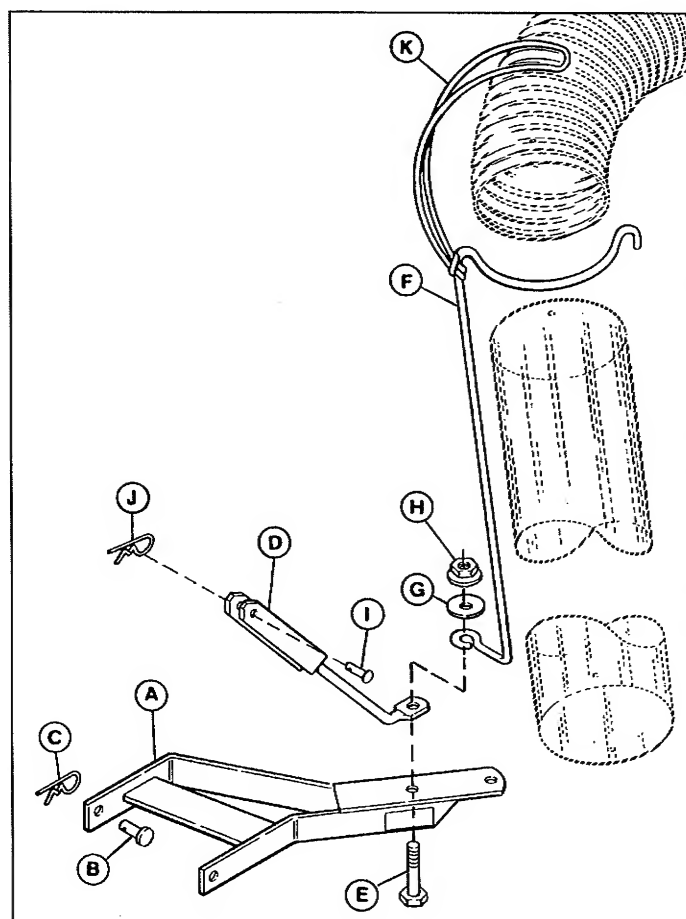

Figure 5. Drawbar & Supports
1. See Figure 5. Assemble the drawbar support (D), drawbar (A), and tube support using a capscrew (E), washer (G), and nut (H) as shown.